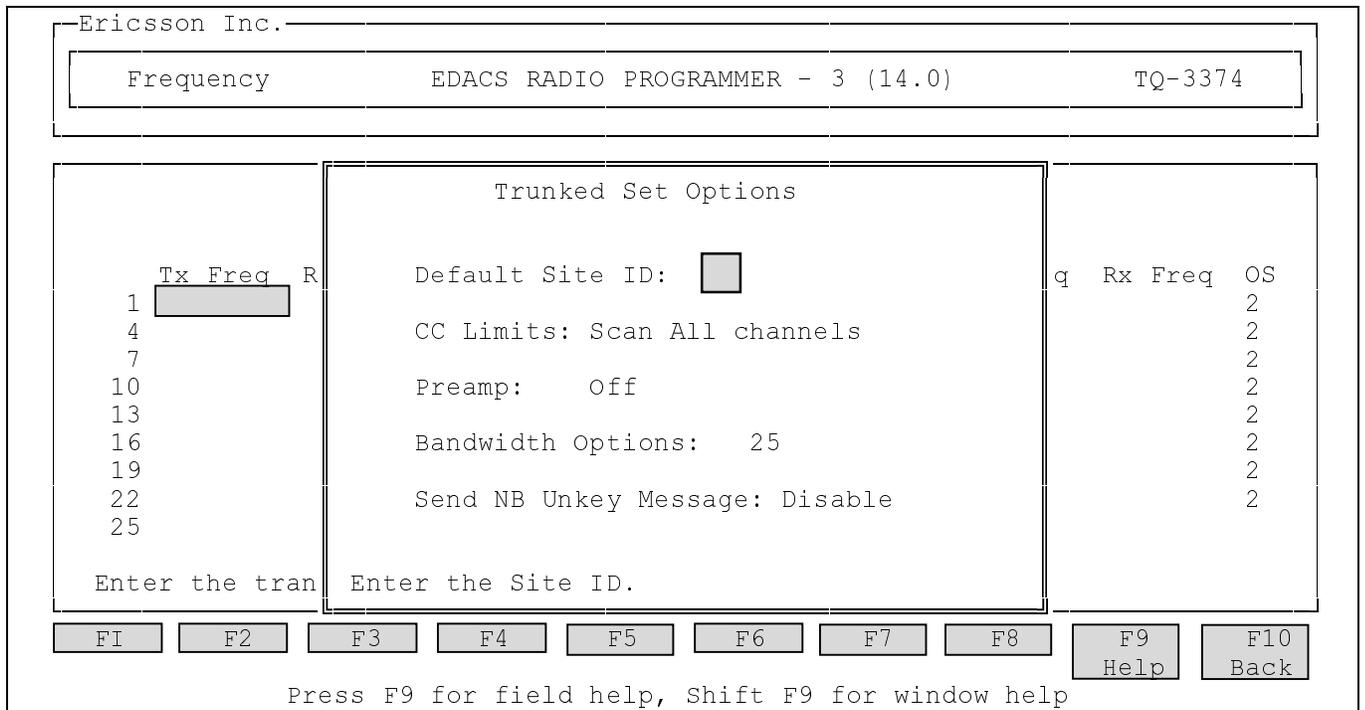

Figure 6 - Trunked Set Options Window
- Press the **F7** (Option) function key to bring up the **Trunked Set Options** window in front of the **Trunked Frequency Set** screen (see Figure 6).